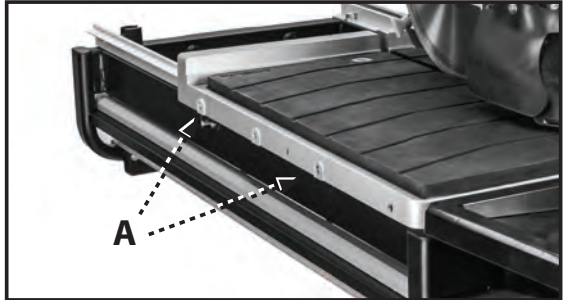

FIGURE 12
1. The table extension (12) installs on the right side of the worktable.
2. Position the table extension so that the two pins on the extension line up with the two holes (A, Fig. 12) on the worktable as shown.